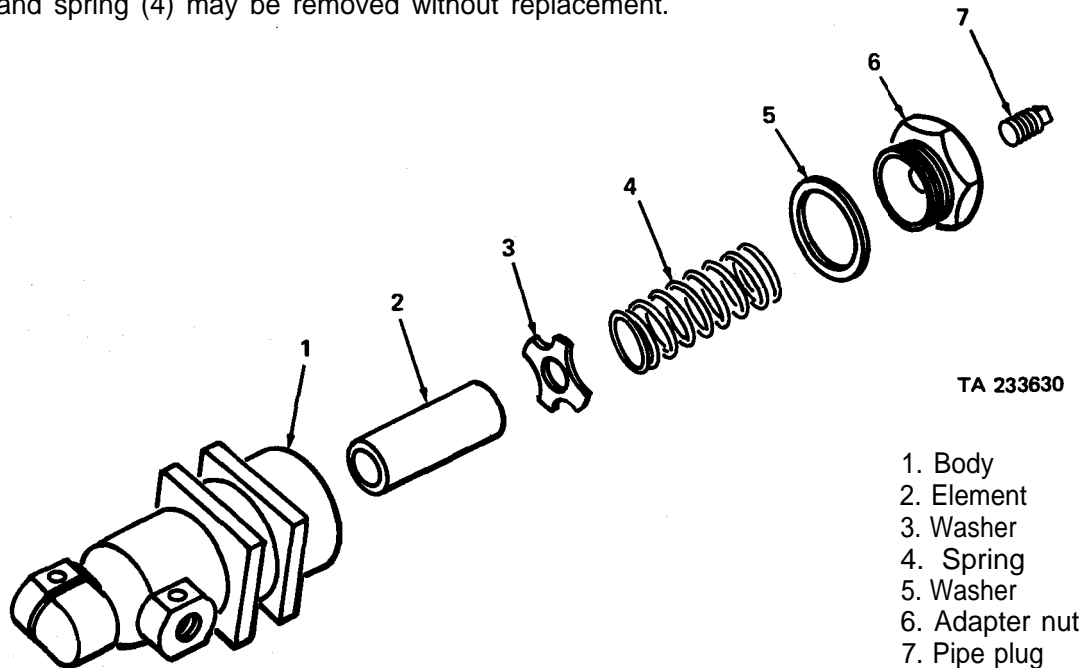

Figure 4-51. Air filter, exploded view
C. Disassembly. When performing routine air filter maintenance, the filter element (2,fig. 4-51), centering washer (3) and spring (4) may be removed without replacement.